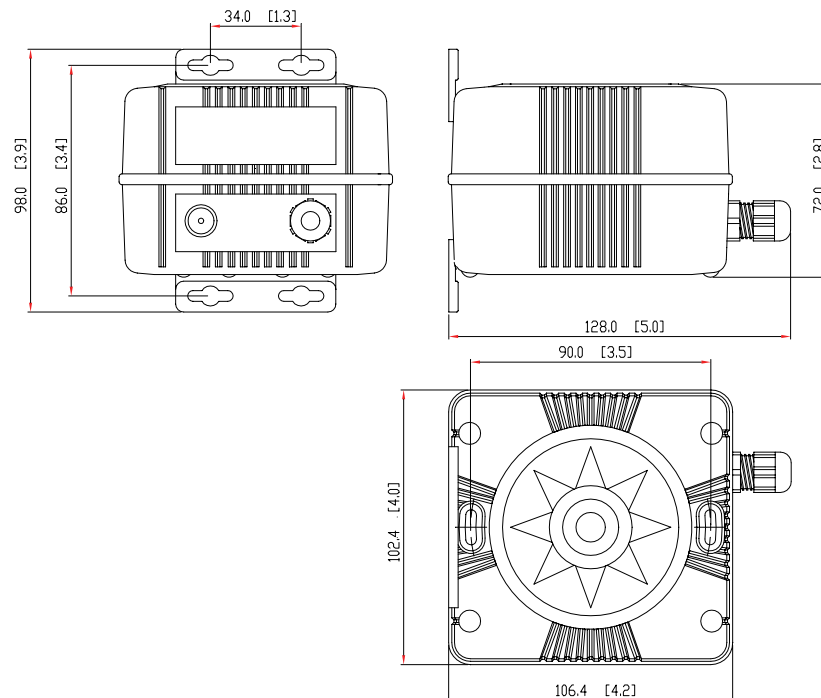

Figure 8-4 RC36 Rate Compass - Dimensions
- Dimensions: See Figure 8-4
Dimensions: Same as RC36. See Figure 8-4